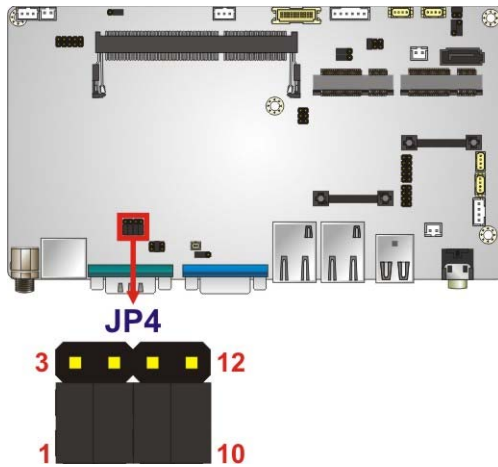

Figure 3-15: RS-232/422/485 Serial Port Select Jumper Location
- Jumper Location:** See **Figure 3-15**
The RS-232/422/485 Serial Port Select jumper location is shown in **Figure 3-15**.